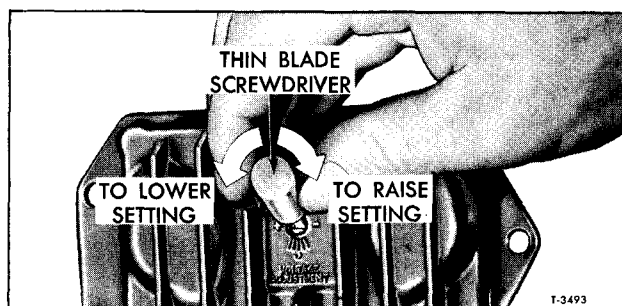

Figure 16—Adjusting Voltage Setting (Typical)
5. To adjust voltage regulator setting, remove access plug from regulator cover and use a thin, flat-bladed instrument to turn the slotted adjuster (fig. 16).